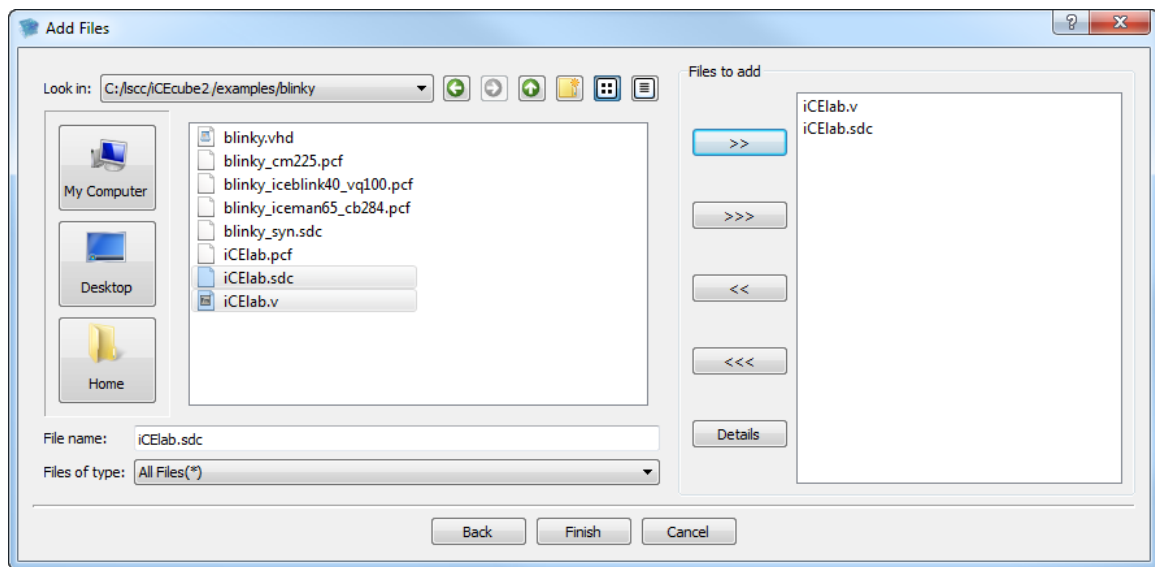

Figure 4: New Project Wizard – Add Files Dialog Box
- Click **Next** to display the Add Files dialog box, as shown in Figure 4.